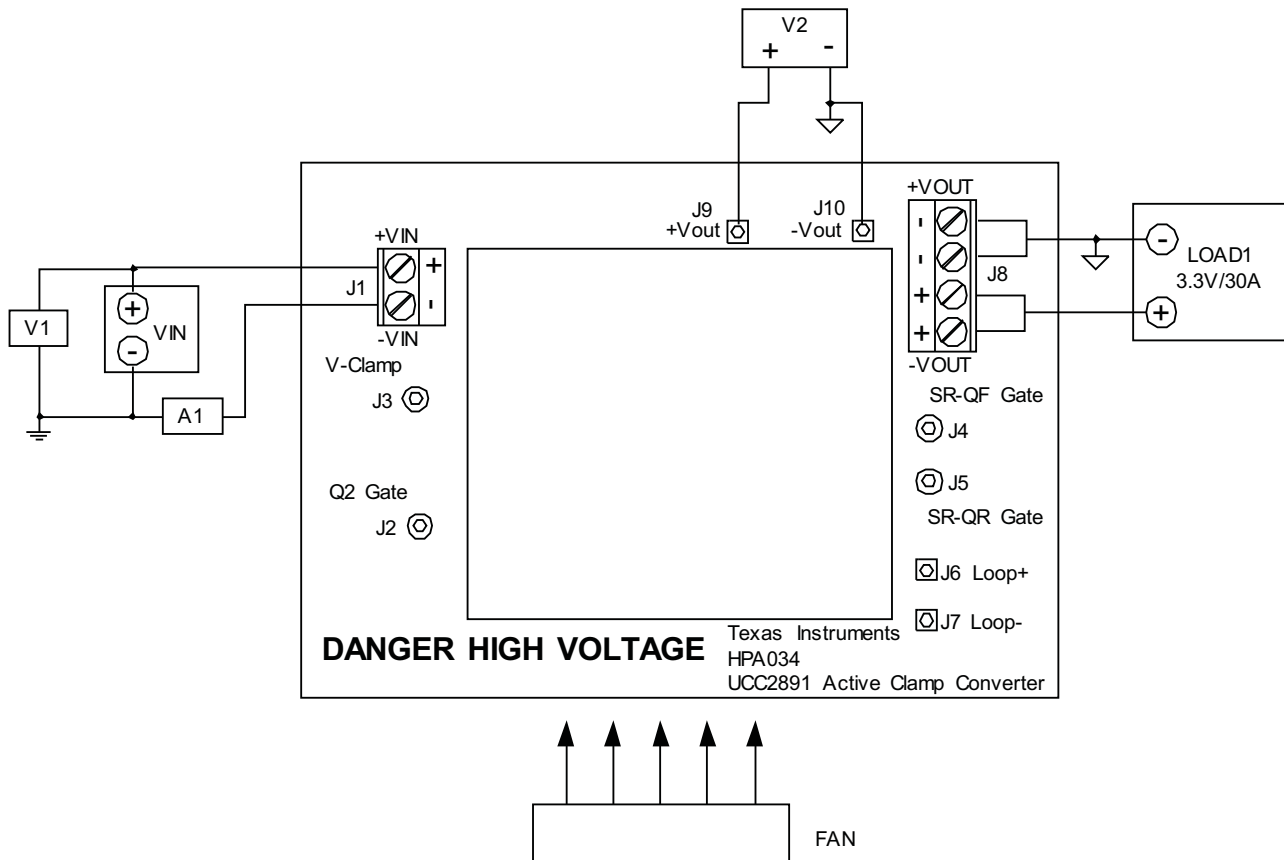

Figure 2. Recommended EVM Test Configuration
Figure 2 shows the basic test set up recommended to evaluate the UCC2891EVM.
The input voltage is a variable DC source capable of supplying between $0V_{DC}$ and $72V_{DC}$ at no less than $3.5A_{DC}$, and connected to J1 and A1 as shown in Figure 2. For fault protection to the EVM, good common practice is to limit the source current to no more than $4A_{DC}$ for a 36 V input. A dc ammeter, A1 should also be inserted between VIN and J1 as shown in Figure 2.
2. Prior to connecting the DC input source, VIN, it is advisable to limit the source current from VIN to 3.5-A maximum. Make sure VIN is initially set to 0 V and connected to J1 as shown in Figure 2.
3. Connect the ammeter A1 (0A to 10A range) between VIN and J1 as shown in Figure 2.
4. Connect voltmeter (can optionally use voltmeter from VIN source if available), V1 across VIN as shown in Figure 2.
5. Connect LOAD1 to J8 as shown in Figure 2. Set LOAD1 to constant current mode to sink 0 A_{DC} before VIN is applied.
6. Connect voltmeter, V2 across J9 and J10 as shown in Figure 2.